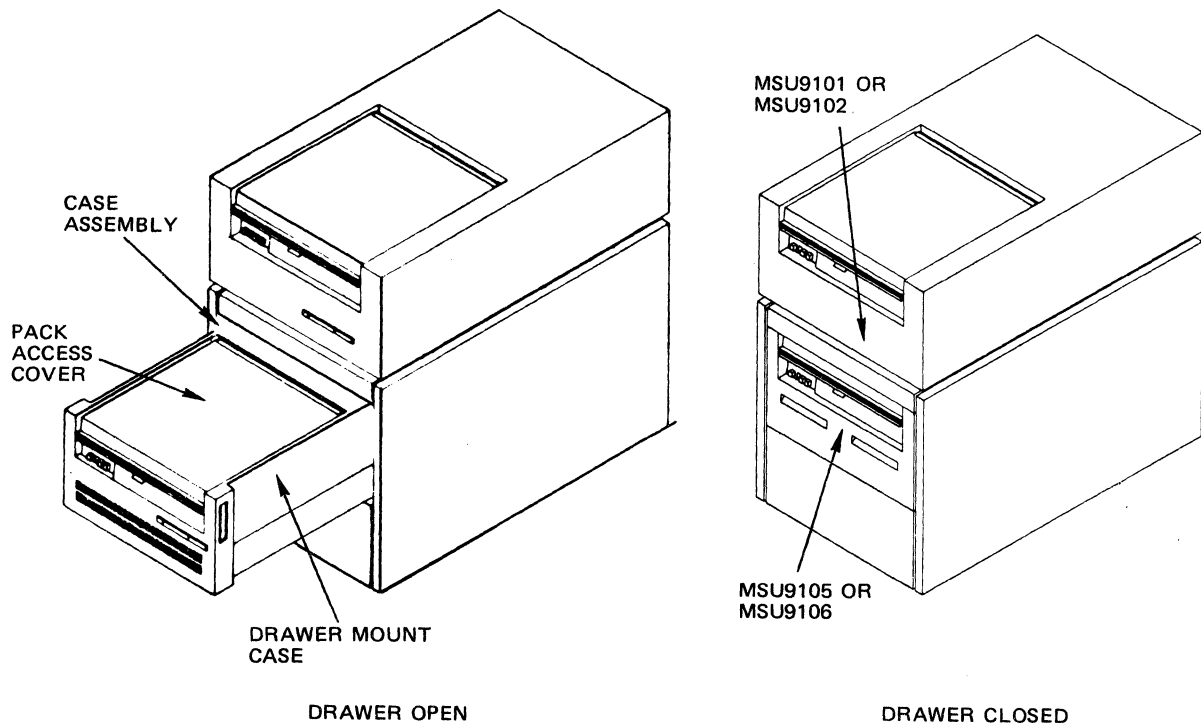

Figure 2-1 Mass Storage Unit Cabinet with Expansion Drawer
1. Raise drawer mount case (see Figure 2-1) as follows:
7. Open pack access cover (see Figure 2-1) on drawer, and remove orange plastic cover that protects spindle during shipment.